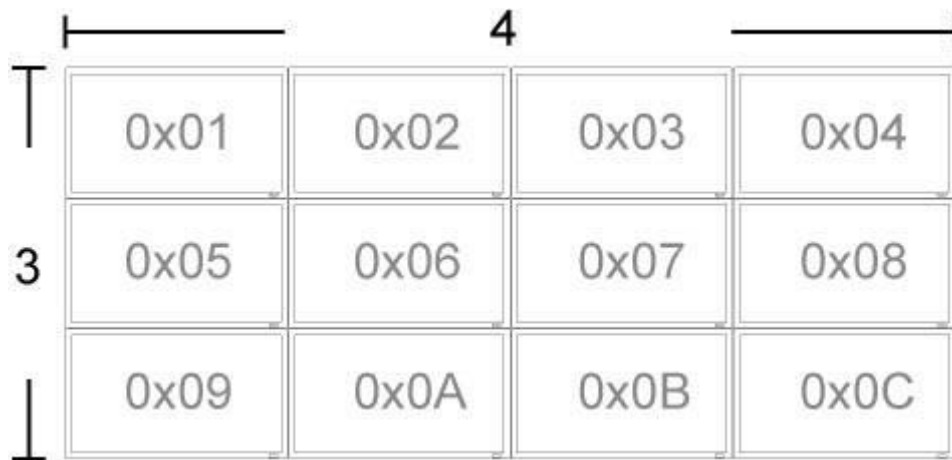

Figure 1
*Example: See Figure 1 for the hexadecimal Position value in a 4x3 (H Monitors x V Monitors) Tiling Wall.*